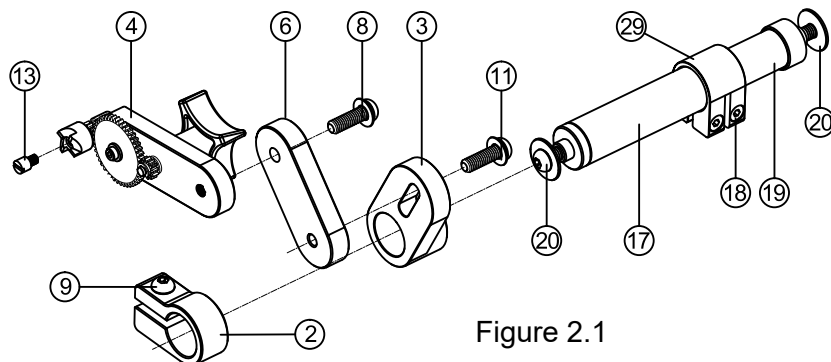
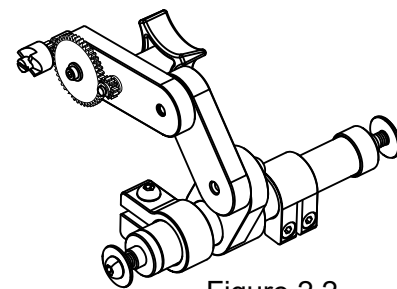

Figure 2.1
Figure 2.2
1. Use a flathead screwdriver (SL4) to install the pilot bolt of IS $\varnothing 5.9$ ⑬ on the main body ④ for positioning.
2. As shown in the Figure 2.1, assemble the related parts in sequence to form the assembly shown in Figure 2.2.